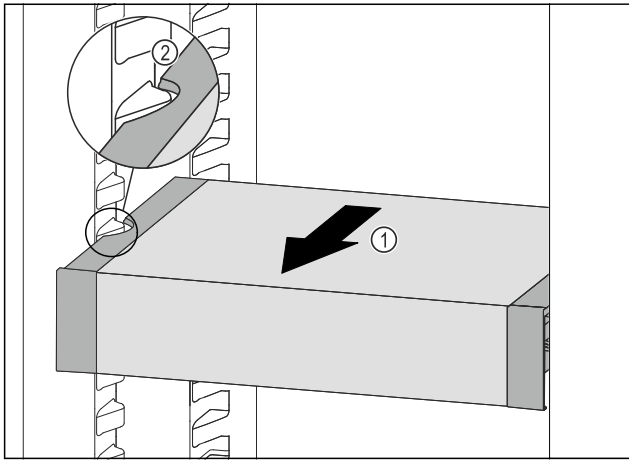

Fig. 206
- ▶ Pull VarioSafe forwards Fig. 206 (1) until the recesses in the side of the VarioSafe are at the level of the support rib in the fridge section. Fig. 206 (2)